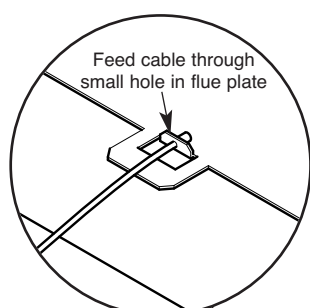

Fig. 16
5. Feed the cable through the hole in the top flange of the fire box from the rear (Fig. 16).